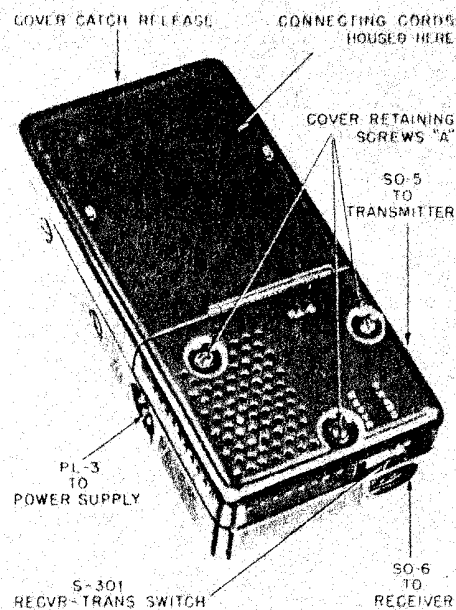

Figure 10. Filter-Accessory Unit RA-6 showing RECVR TRANS switch.
d. Set the RECVR-TRANS switch on the Filter-Accessory Unit RA-6 to TRANS. See Figure 10.
(1) Set the RECVR-TRANS switch (Figure 10) on Filter-Accessory Unit RA-6 to RECVR. Although calibration can be accomplished with the RECVR-TRANS switch in the TRANS position, power consumption will be less with this switch in the RECVR position.
(2) Turn the BFO dial until zero is aligned with the white mark on the housing.
(3) Hold down the button marked PRESS TO CALIBRATE.
(4) Turn VERNIER TUNING until zero beat is heard - always tuning in from the low frequency direction to eliminate any error due to slack in the tuning system.